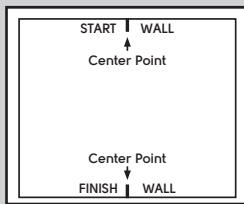

Fig. 1
1. Pattern Layout: Measure to find the center of the room on the start wall and the finish wall (Fig 1).